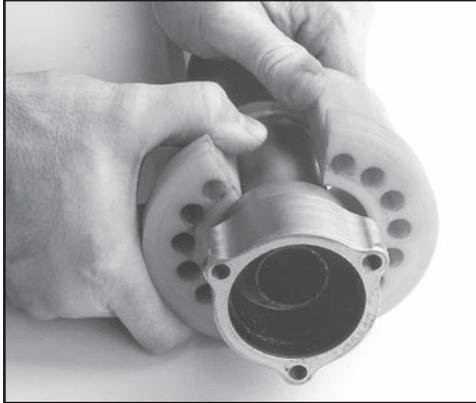

**FIG. 57: REMOVE 3 SOCKET HEAD CAP SCREWS**
4. Remove the whip hose by unscrewing the 3 socket head cap screws of the hose connection (see Fig. 57).